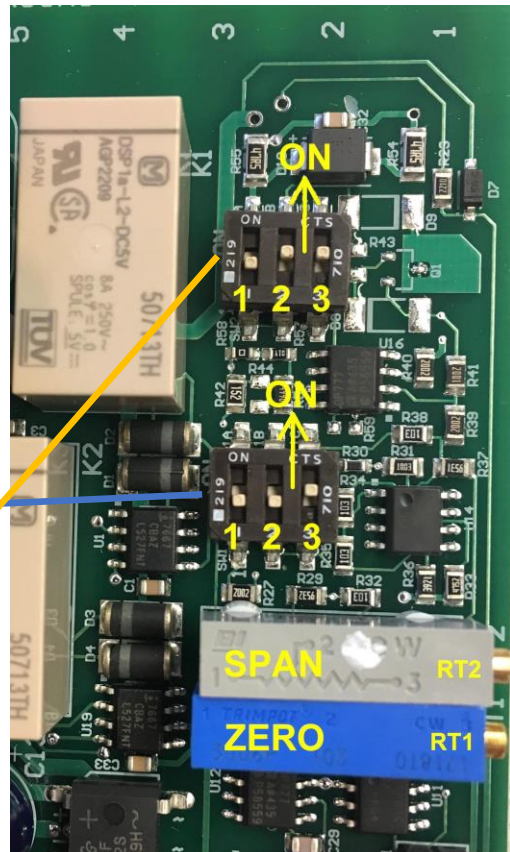

Figure 1.4 Analog Switches & Trim-Pots
- 8) Analog outputs of 0-1mA, +/-1mA, and 0-2mA can be changed in the field to any one of the other two. Set the appropriate switches on Switch A and B per the table below. See Table 1.4 and Figure 1.4